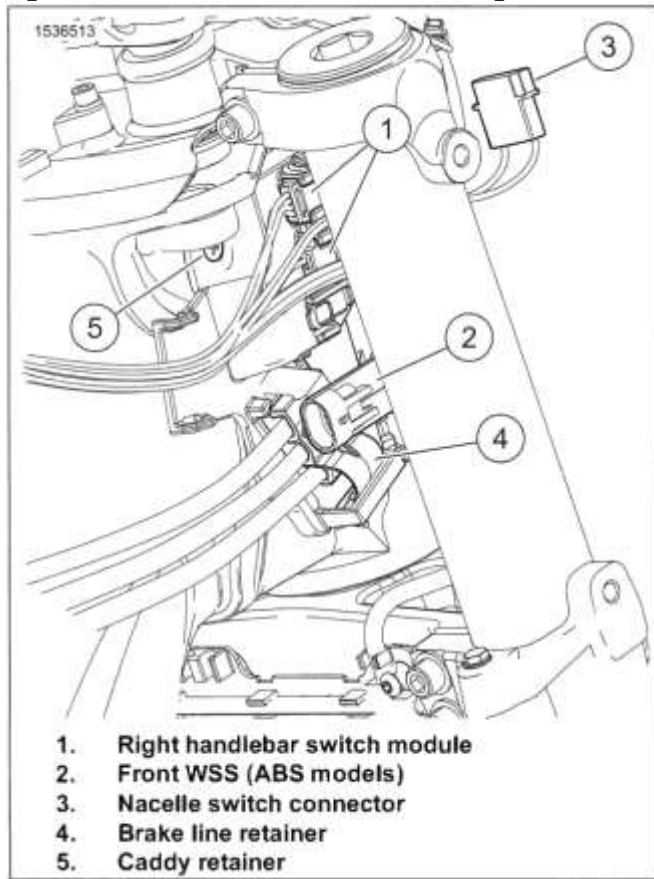

Figure 3-142. Right Side Connectors: Road King
3. See Figure 3-142. Separate right handlebar switch connectors (1).
9. See Figure 3-142. Connect right handlebar switch connectors (1).